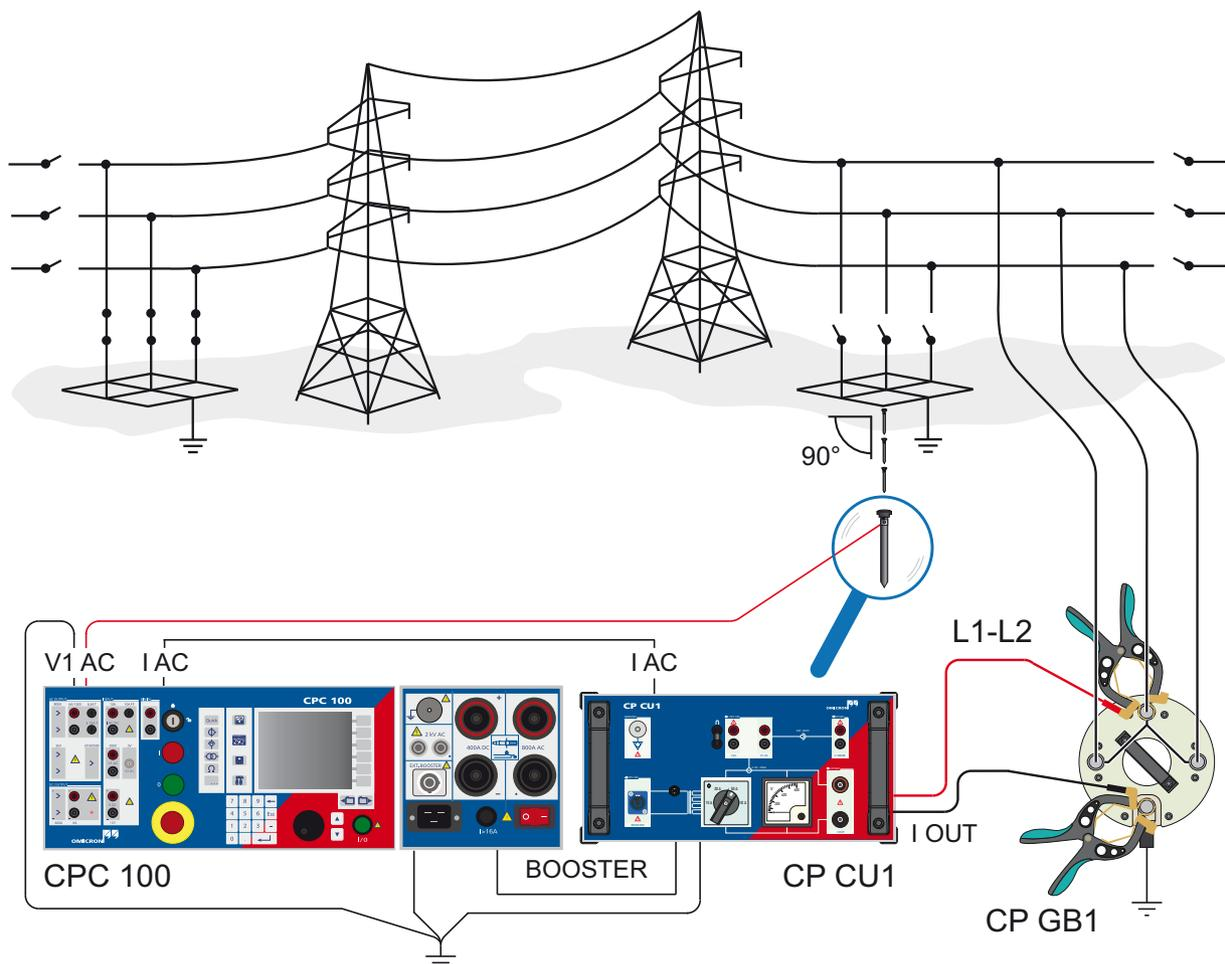
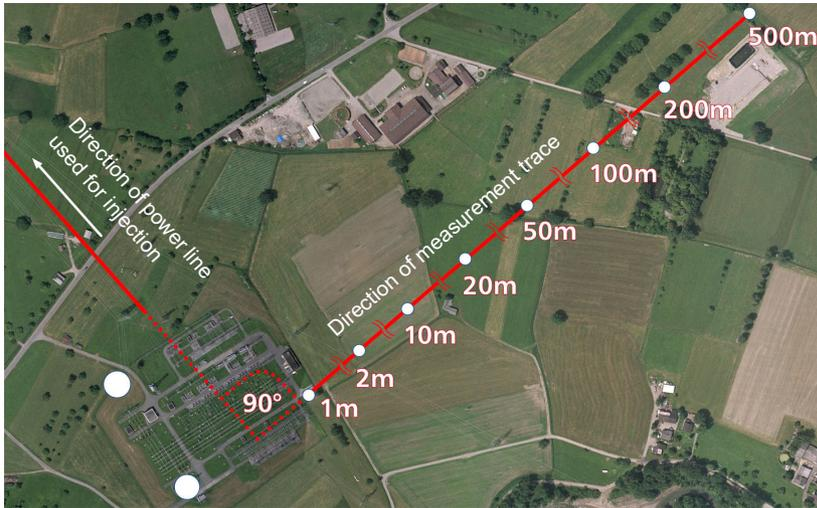

Figure 5-5: Ground impedance measurement setup
Figure 5-6: Direction of measurement trace
2. If criterion 3 is met, establish the measurement setup as shown in Figure 5-5 below.
3. Follow the examples in Figure 5-6 above and Figure 5-5: on page 50, by connecting the black pin of the V1 AC input with any grounded part in the substation and the red pin with the rod, which is used as test electrode.